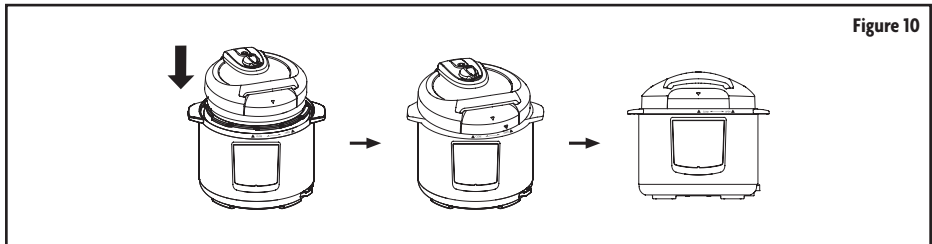

Figure 10
5. If your desired cooking preset requires, place the lid on the multicooker (see the Preset Guidelines below). Hold the handle and rotate the handle 30° clockwise until it locks into place, making a sound, and aligning the arrows on the lid and base so it is the  position. If the lid is not shut properly, the  symbol will light up under the Magic Chef name. (Refer to Figure 10.)